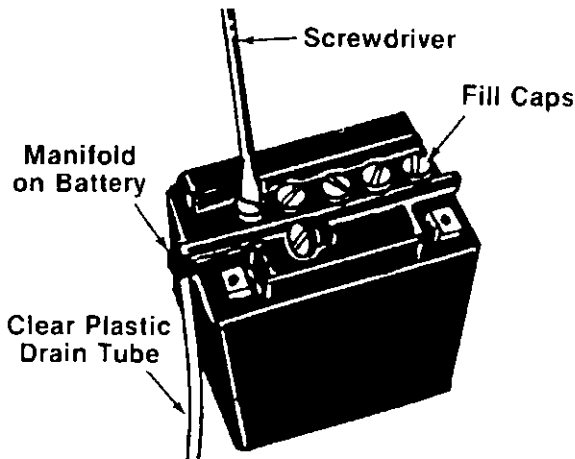

FIGURE 2.
- ← 3. Place one end of clear plastic drain tube on manifold of battery. See figure 2.
4. Remove the six fill caps from the top of the battery with a screwdriver. Care should be taken not to damage the fill caps. See figure 2.